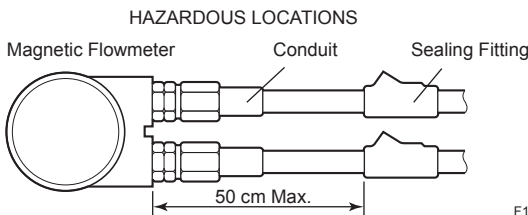

Figure 10.3 Conduit Wiring
- In hazardous location, wiring shall be in conduit as shown in Figure 10.3